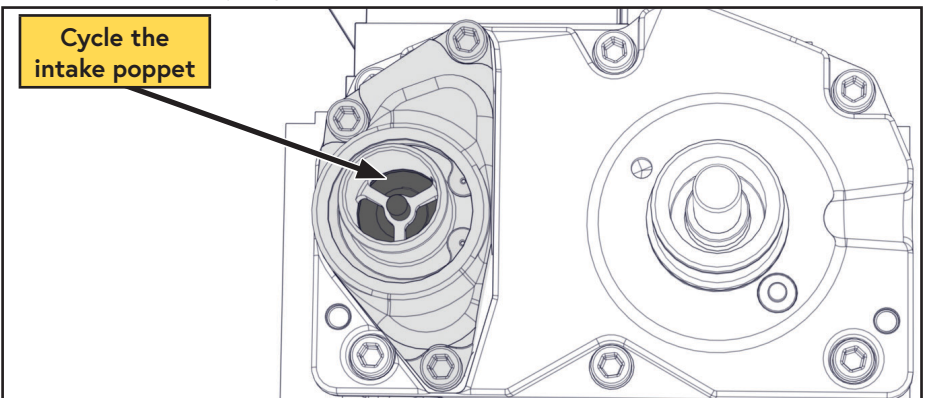

Figure 24 — Cycle the intake poppet
- ☐ Press down on the inlet poppet and release it to ensure the poppet closes properly. Cycle the poppet valve in this fashion several times to ensure it operates smoothly (Figure 24).